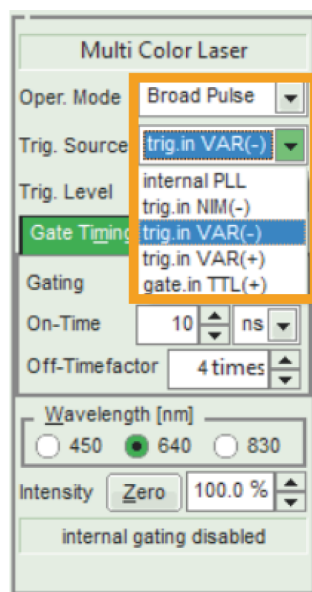

Figure 15: trigger source options under selection box "Trig. Source"
- After selecting one of the Pulse Modes, a new selection box called **Trig. Source** will appear below the mode selection box, see Fig. 15. The following trigger modes are available for the *PRIMA*: